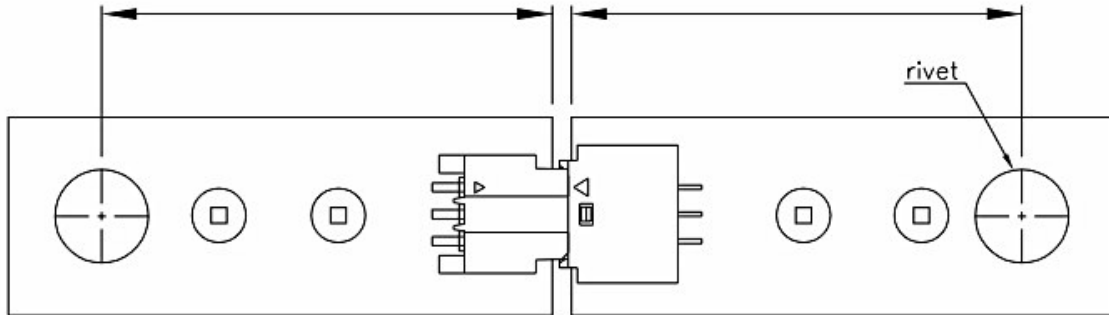

Fig. 3-4-1. (Ref.)
- We deeply suggest using rivet system etc. Don't mating only status.( Fig.3-4-1). If mating only, that might cause the transformation of terminal and housing etc.